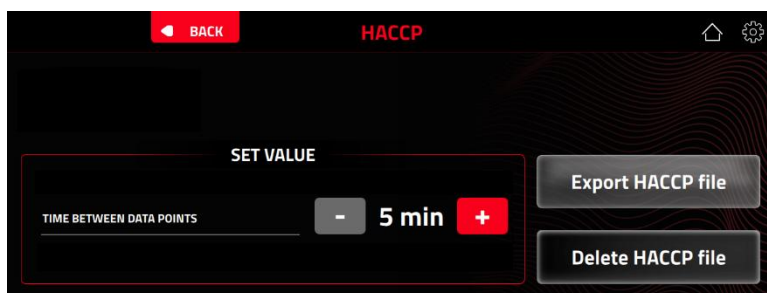

Fig. 6.2
- **HACCP:** Hazard Analysis Critical Control Points. This is a series of time and temperature parameters to reduce the risk of foodborne illness, originating from the FDA. The HACCP screen enables the cabinet to record relevant time and temperature data at selectable time intervals over a period of time. The data can then be Exported for storage and/or deleted. See Fig. 6.2.